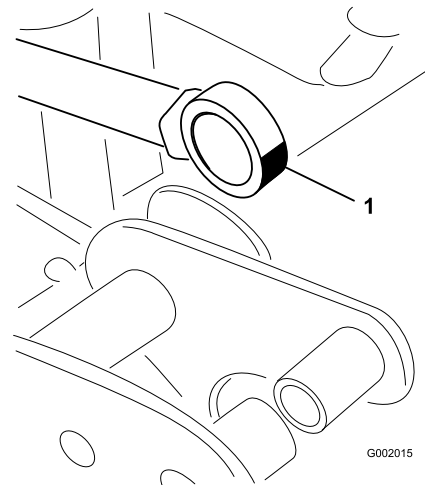

Figure 48
5. Manipulate the actuator rod bearing end and apply grease into the bearing (Figure 48).